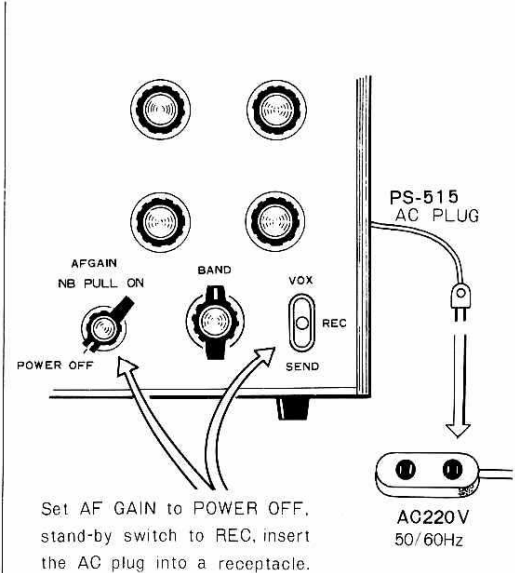

Fig. 2 Initial Switch Settings
*Before operating the transceiver, make sure the AF GAIN knob is set to POWER OFF and that the stand-by switch is set to REC. If this is not done, damage may occur when the power is applied. (See Fig. 2)*